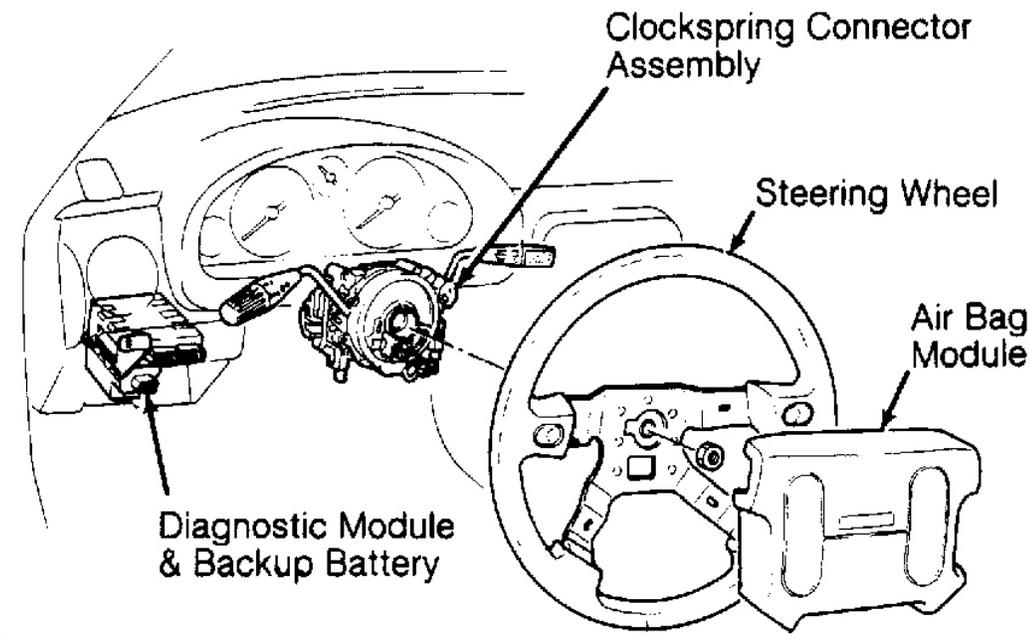
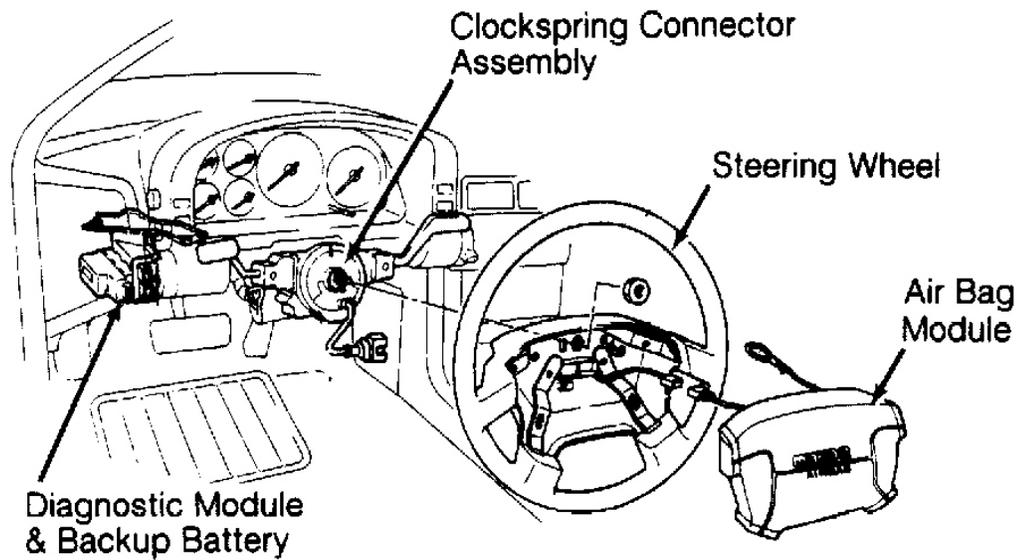

Fig. 4: Identifying Air Bag System Components (Miata)
Fig. 5: Identifying Air Bag System Components (RX7 Convertible)
2. Air bag module is located on center of steering wheel. See **Fig. 4** or **Fig. 5**. Remove air bag module nuts and remove module from steering wheel. To install, reverse removal procedure. Tighten air bag module mounting nuts to specification. See TORQUE SPECIFICATIONS table. Reactivate air bag system. See DISABLING & ACTIVATING AIR BAG SYSTEM. Check AIR BAG indicator light to ensure system is functioning properly. See SYSTEM OPERATION CHECK.
2. Clockspring connector assembly is located under steering wheel, in steering column. See **Fig. 4** or **Fig. 5** . Remove air bag module. See **AIR BAG MODULE**. Remove steering wheel nut and remove steering wheel with steering wheel puller. Remove column covers. Remove screws. Remove clockspring connector and combination switch as an assembly.
2. Diagnostic module and back-up battery is located under left side of instrument panel. See **Fig. 4** or **Fig. 5** . Disconnect diagnostic module and back-up battery connectors. Remove nuts. Remove diagnostic module and back-up battery as an assembly. To install, reverse removal procedure. After diagnostic module and back-up battery are installed, reactivate air bag system. See **DISABLING & ACTIVATING AIR BAG SYSTEM**. Check **AIR BAG** indicator light to ensure system is functioning properly. See **SYSTEM OPERATION CHECK**.